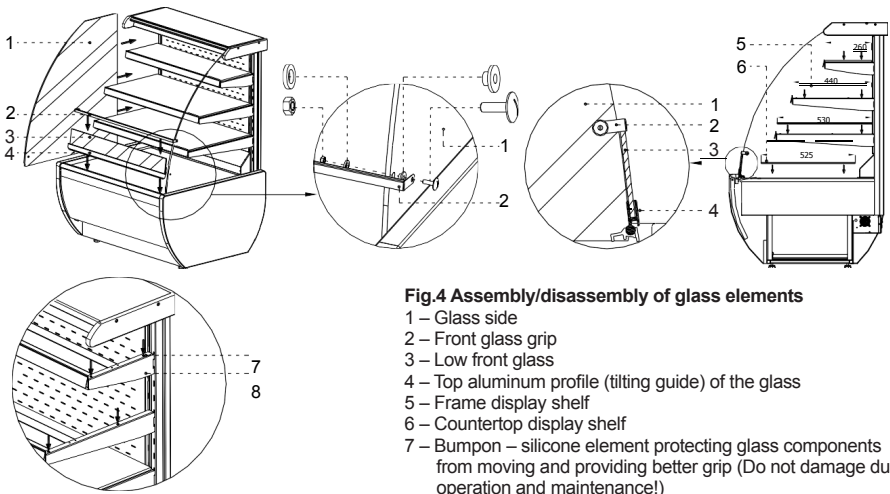

Fig.4 Assembly/disassembly of glass elements
3. Place glass shelves on the frame and the internal countertop Fig.4/5,6 (p.6) . Place glass components on silicon parts (bumpsons) Fig.4/8 (p.6).